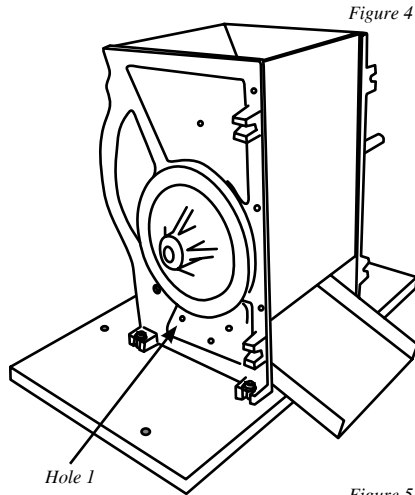

Figure 4
5. Slide the **Chute** up into the **Apple Crusher Body** (Figures 4 & 5).